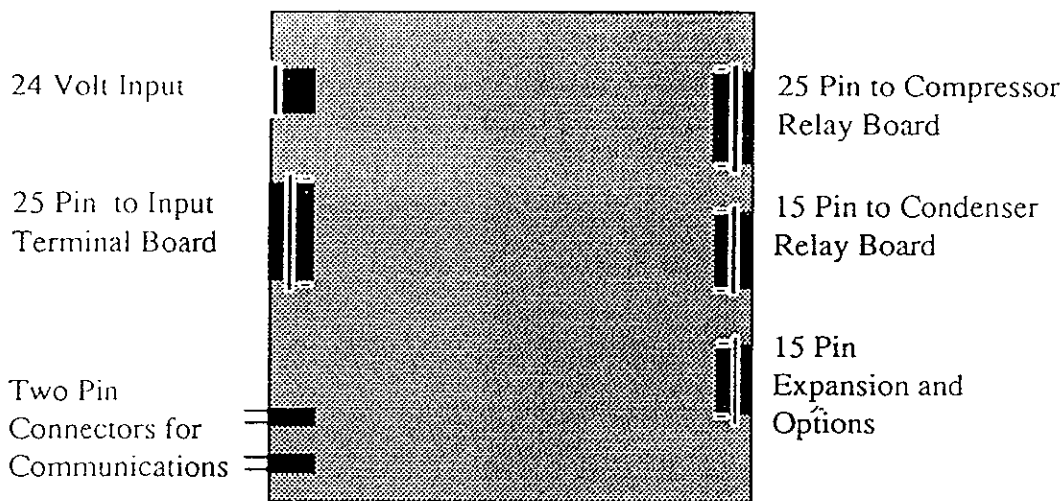

Figure 1-2. CPU Board
1. New CPU Board, Figure 1-2
The "CPU" board (Central Processing Unit) is located within the enclosure directly behind the front panel membrane. See Figures 1-2 and 1-3.
There are 6 plugs located on the sides of the CPU board as labeled. The connections of the two 25 pin as well as the two 15 pin cables are not interchangeable. See Figure 1-2.